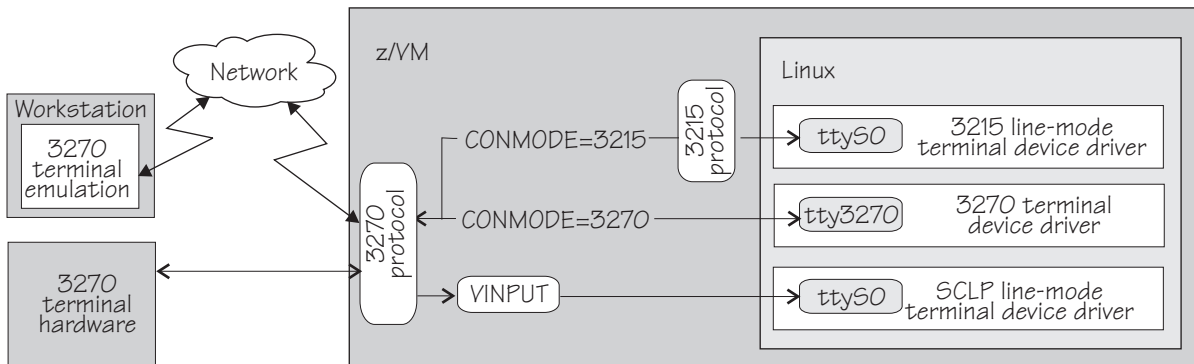

Figure 55. Accessing terminal devices from a 3270 device
Figure 55 illustrates how z/VM can handle the 3270 communication.
**Note:** Figure 55 shows two console devices with the name ttyS0. Only one of these devices can be present at any one time.